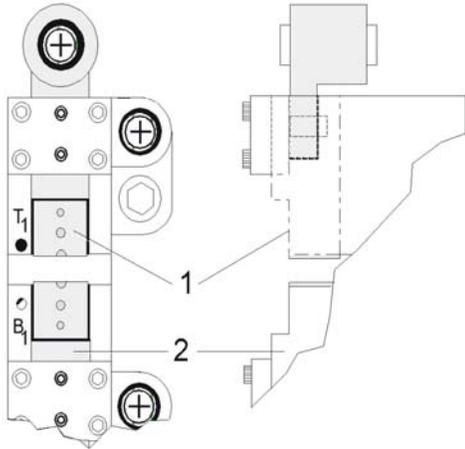

Figure 12 Die Mounting Surface & Die Block Slide
- b. Carefully place each die on the proper die mounting surface (Figure 12, Item 1) and bolt in place with a 10-32 x 5/8" (15.75 mm) screw. Then manually index the machine until the die block slides (Figure 12, Item 2) are in their fully closed position.